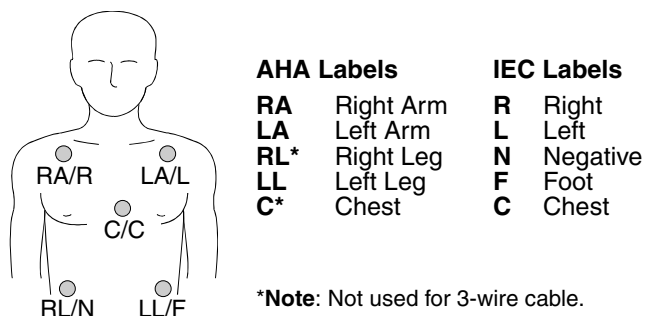

Figure 3-3 Electrode Placement for ECG monitoring
- 3 Identify the appropriate electrode sites on the patient as shown in Figure 3-3.